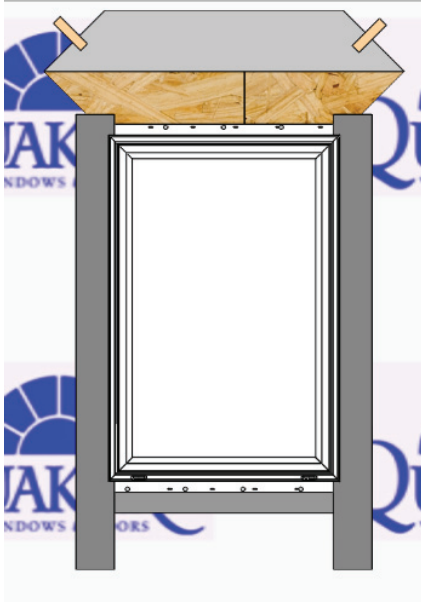

Fig. 12
- A. Cut two pieces of flashing tape for jamb flashing extending 1" above window head flange and 4" to 6" below bottom edge of sill flashing. Remove release paper and press tightly along sides of window frame. (Fig. 12)